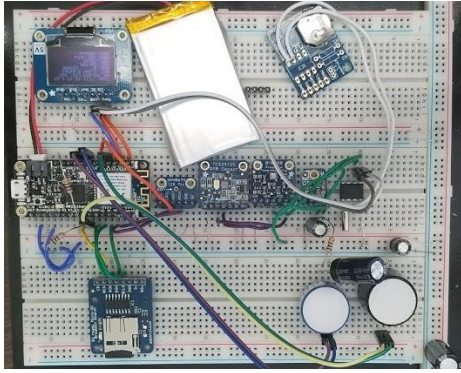
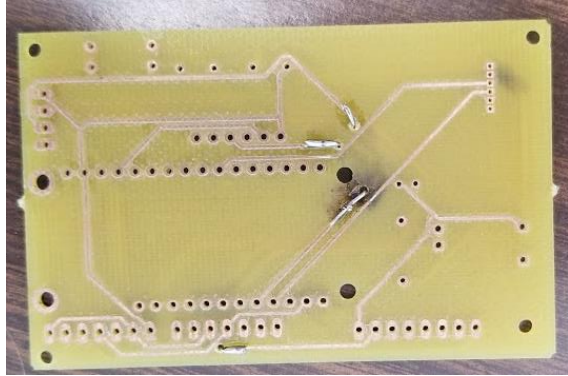

Figure 5: Wiring Prototype
Figure 6: Fabricated PCB on site
Figure 5 depicts the current wiring of the device. It is fully functional, however it needs to be compressed, which is what the PCB in figure 6 is for. The PCB in Figure 6 puts all the components in a nice package that's about 2 x 3 x 1 inch. It will be battery operated for at least 8 hours.
- Wired up the circuit and programmed the chip to read all the sensors. (Figure 5)
- Fabricated a PCB using the onsite mill from the drawings made using EAGLE (Figure 6).